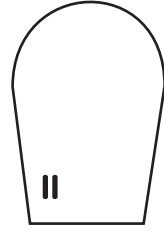

Figure 3
13. Do not touch the surfaces shown in Figure 2 and Figure 3 below, during or just after ironing. They are HOT!
1. The Auto Shut off Indicator will be flashing as shown in (Figure 3) to indicate the appliance is under safety auto shut off function.